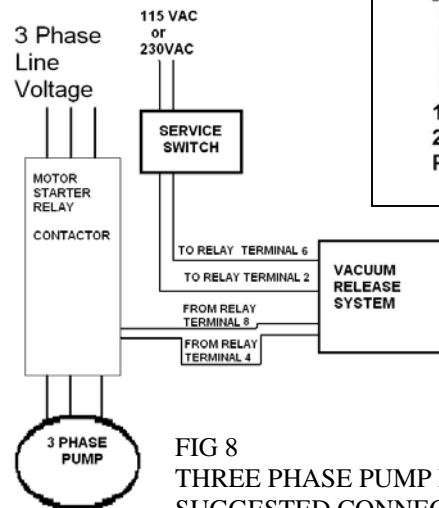

FIG 8
4. If a two-speed pump is used connect the “Low Speed” to terminals 4 & 8 on a contactor (Optional Contactor VRX100KIT). The contactor control (2 wires supplied) MUST be connected onto the board in motor relay position 2. **NOTE: If the pump horsepower is greater than 3 HP, the contactors can be used in series with the motor starters. (See Illustration below FIG 8)**